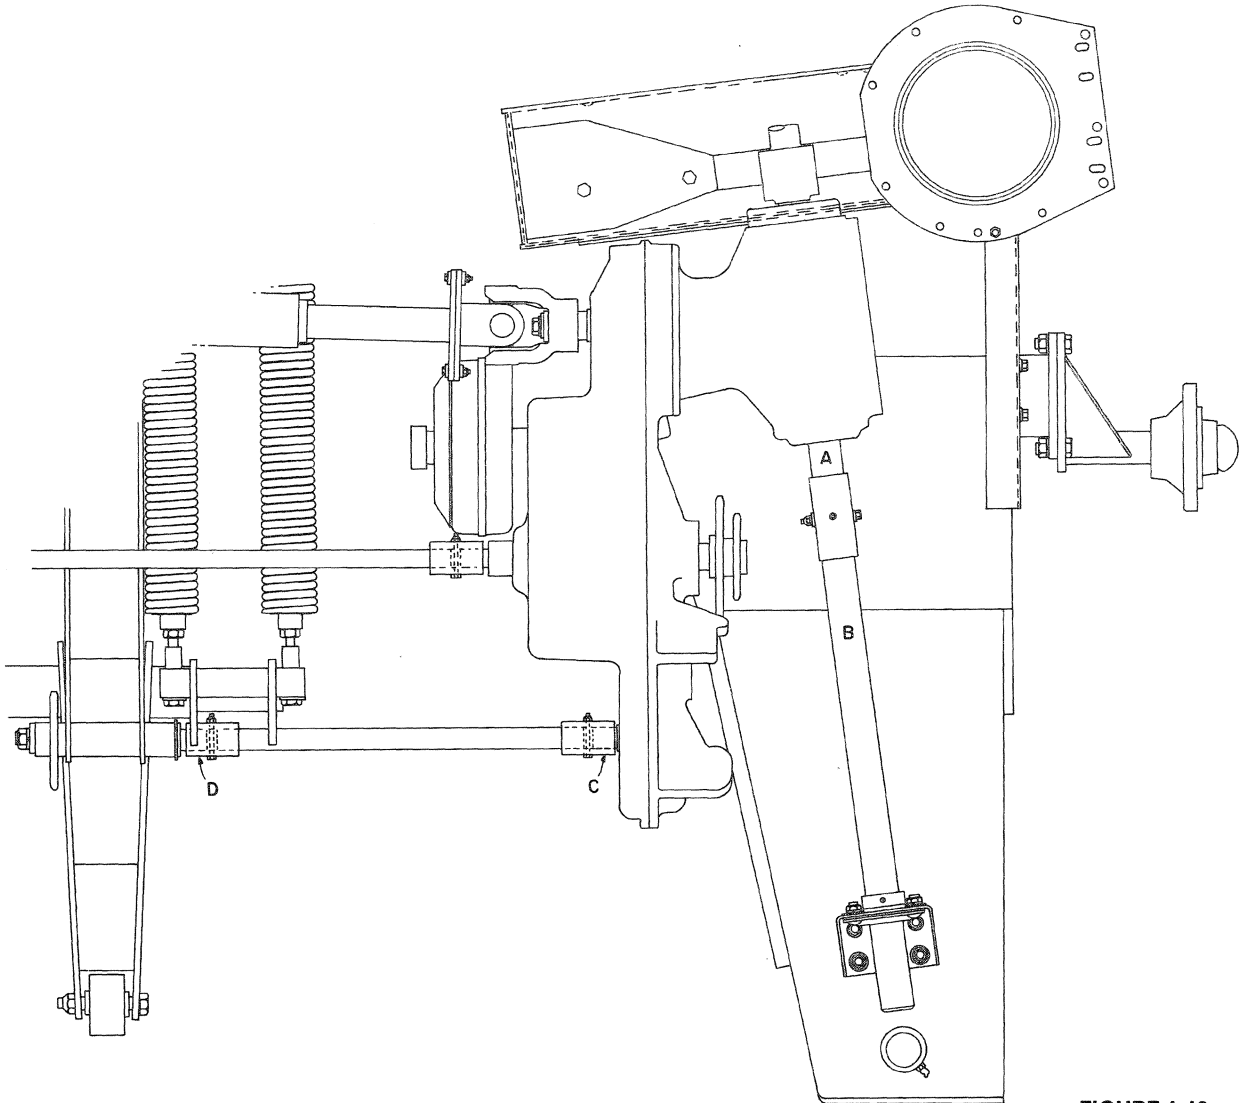

FIGURE 1-13
2. Install the gearbox assembly and reinstall the bevel gearbox mounting bolts. Align the bevel gearbox input shaft, A, Figure 1-13, with the drive shaft, B. Align the reversing gearbox output shaft, C, with the attachment drive shaft, D. Tighten the bevel gearbox mounting bolts securely.